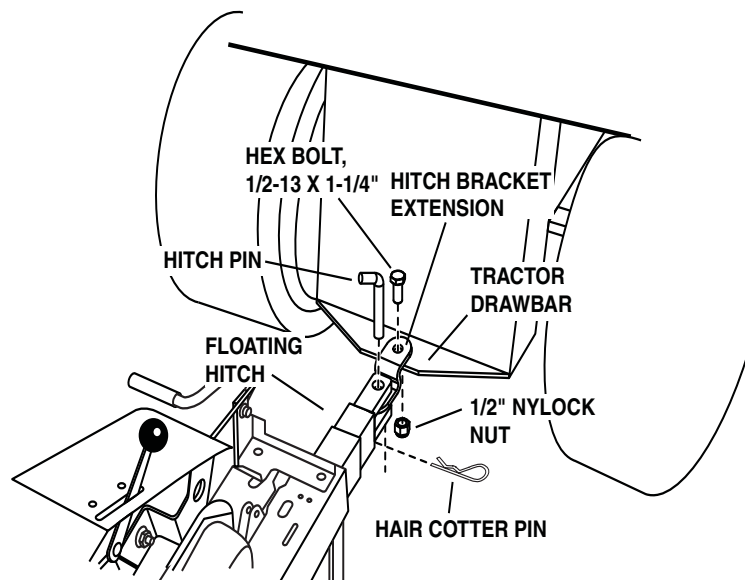

Figure 5
2. Attach the Hitch Bracket Extension to the SMOOTH-TRAK™ Hitch of the Tiller using a Hitch Pin and the Hair Cotter Pin (Figure 5).
NOTE: The Hitch Bracket Extension can be attached as shown in **Figure 5** or turned upside down for Tractors with lower Draw Bars.